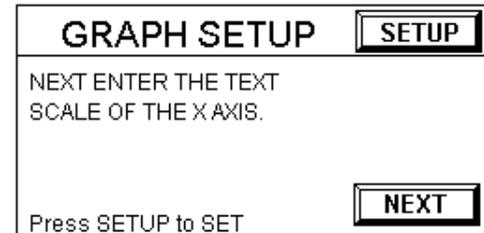

Figure ZD.2-48: X Axis Text Screen
- 2) Press “NEXT” four times to skip to the set X axis label function. The *Graph Setup Screen* changes to describe the setting of the graph X axis label {Figure ZD.2-48}.